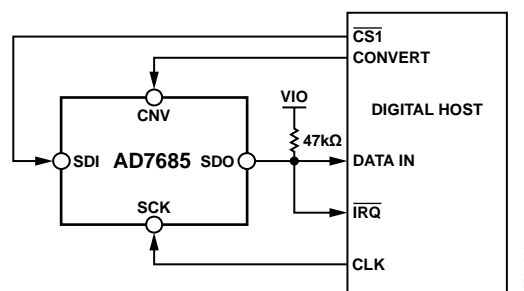
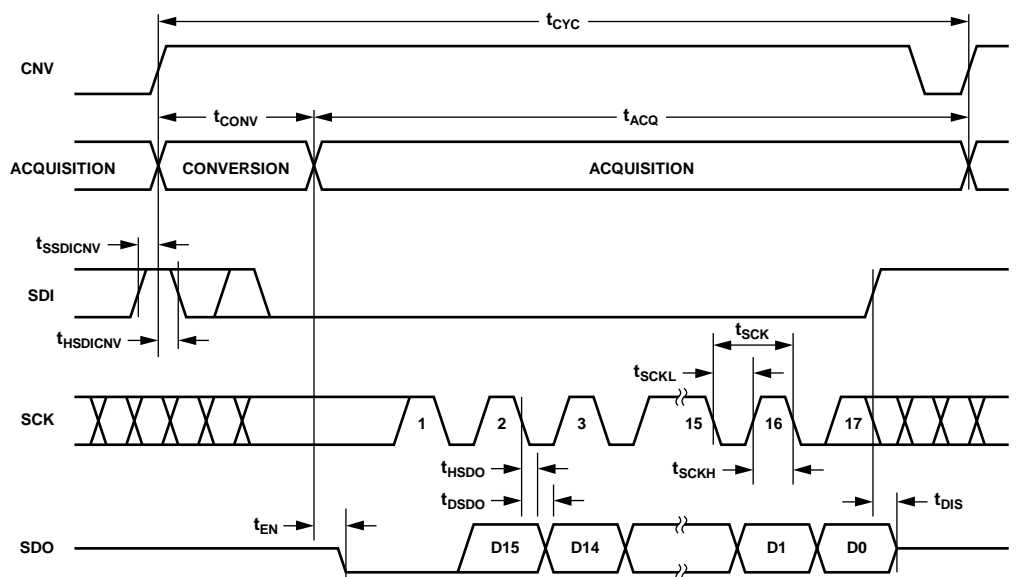

Figure 40. \overline{CS} Mode 4-Wire with BUSY Indicator Connection Diagram
Figure 41. \overline{CS} Mode 4-Wire with BUSY Indicator Serial Interface Timing
- In the \overline{CS} mode, if CNV or SDI is low when the ADC conversion ends (see Figure 37 and Figure 41).
The connection diagram is shown in Figure 40, and the corresponding timing is given in Figure 41.